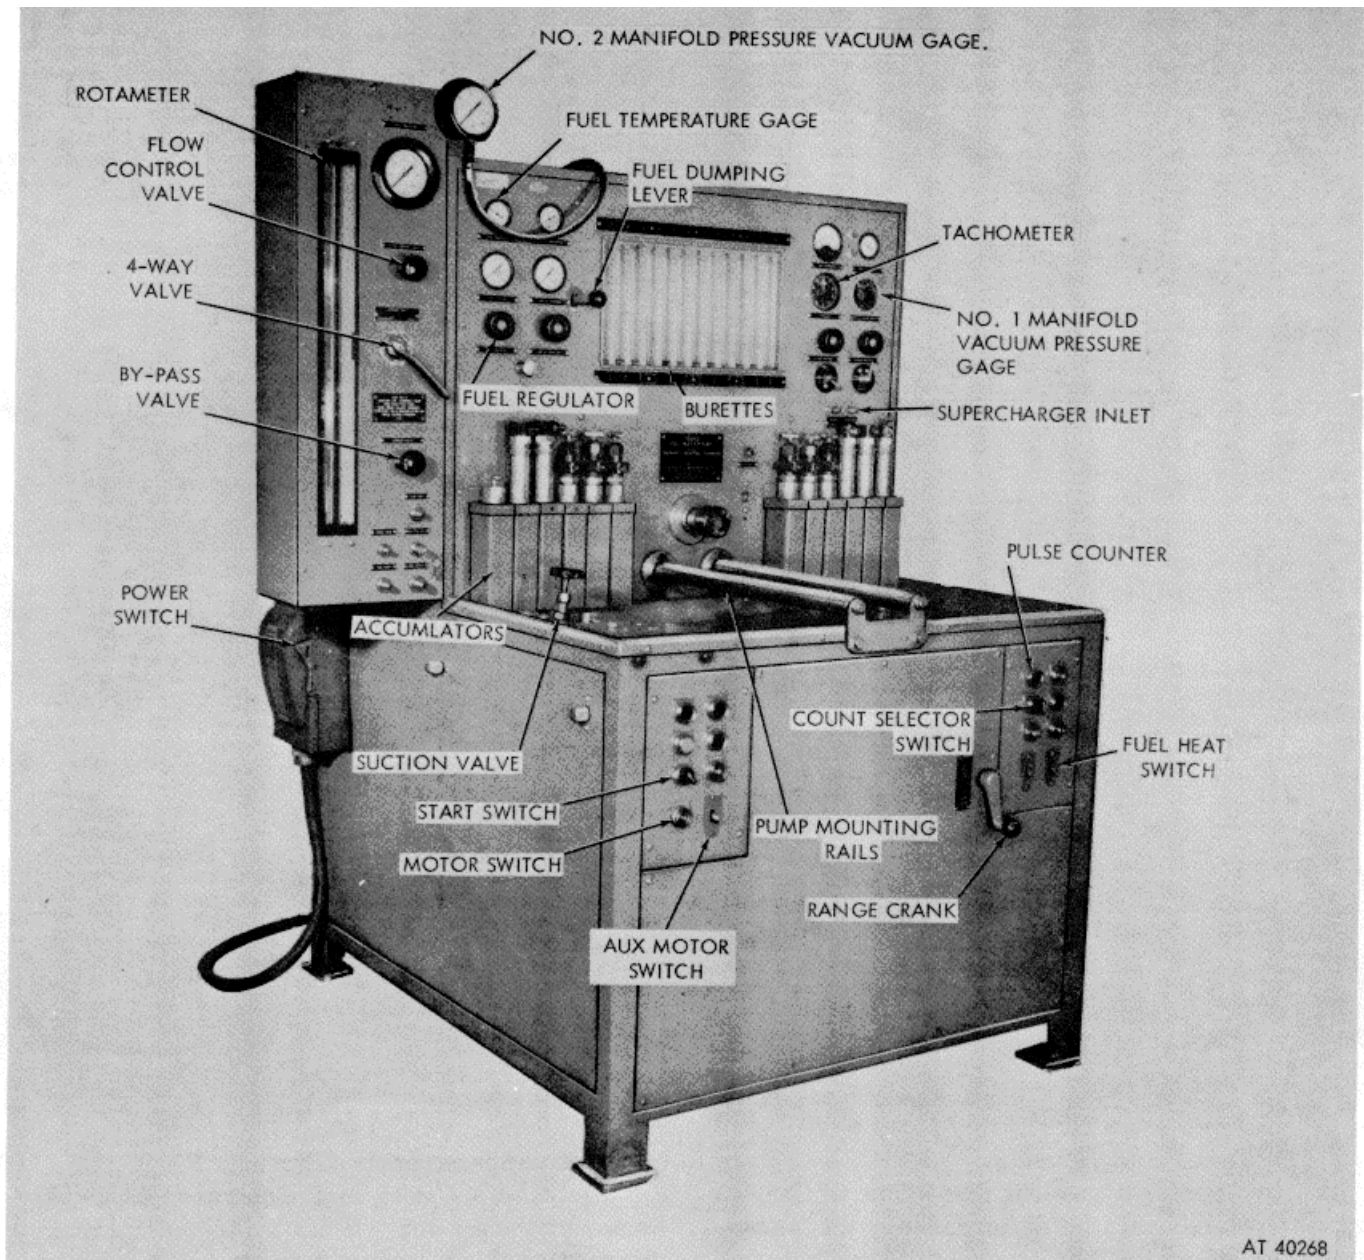

Figure 3-80. Fuel pump test stand.
(2) Place ring and adapter assembly on stand mounting rails and secure to rails with clamp bar (fig. 3-80). Finger tighten clamp bar only.
If during operation of the stand oil is sucked into vacuum gage no. 1 (fig. 3-80) it will be necessary to use a supplementary vacuum gage (vacuum gage no. 2, fig. 3-80). Disconnect hose from stand supercharger inlet connector (fig. 3-83) to pump inlet adapter. Connect flexible hose from supplementary vacuum gage no. 2 to pump inlet adapter (5, fig. 3-79).
(14) Turn on fuel heat switch (fig. 3-80), observe that temperature on "FUEL TEMPERATURE" gage is between 80 to 100 degrees for testing.
(1) Set stand motor switch (fig. 3-80) to "FORWARD." This corresponds to code designation on pump name plate. "L" for left-hand (fig. 3-84), as viewed from rear of pump.
(2) Open stand "BYPASS VALVE," "SUCTION VALVE" and "FLOW CONTROL VALVE." Back seat all other valves to prevent leakage (fig. 3-80).
(5) Set stand 4-way valve to "ROTAMETER" position (fig. 3-80).
(6) Set stand power switch to "ON" position.
(7) Turn range crank to "LOW RANGE" (fig. 3-80).
(8) Start stand and pump operation by depressing start switch. Depress and release switch until pump operation is between 400-450 rpm as observed on stand "TACHOMETER" (fig. 3-80).
(9) Turn on "AUX MOTOR" switch for one minute, to eliminate any air entrapped in test stand (fig. 3-80).
(10) Adjust "FUEL REGULATOR" to a maximum of 20 psi as observed on "FUEL PRESSURE" gage (fig. 3-80).
(11) Shut-off "AUX MOTOR" switch.
a. *General.* PT type G fuel pump is tested and calibrated on the fuel pump test stand (fig. 3-80).